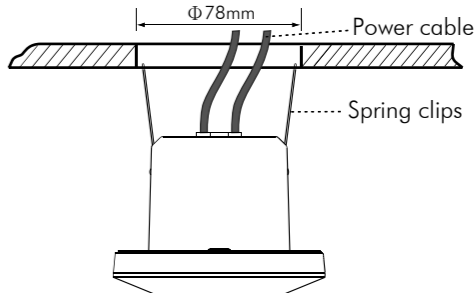

FIG.11
- 3.4.2.4 Close up detector's two spring clips and insert the detector into the drilled hole on ceiling (See FIG.11).